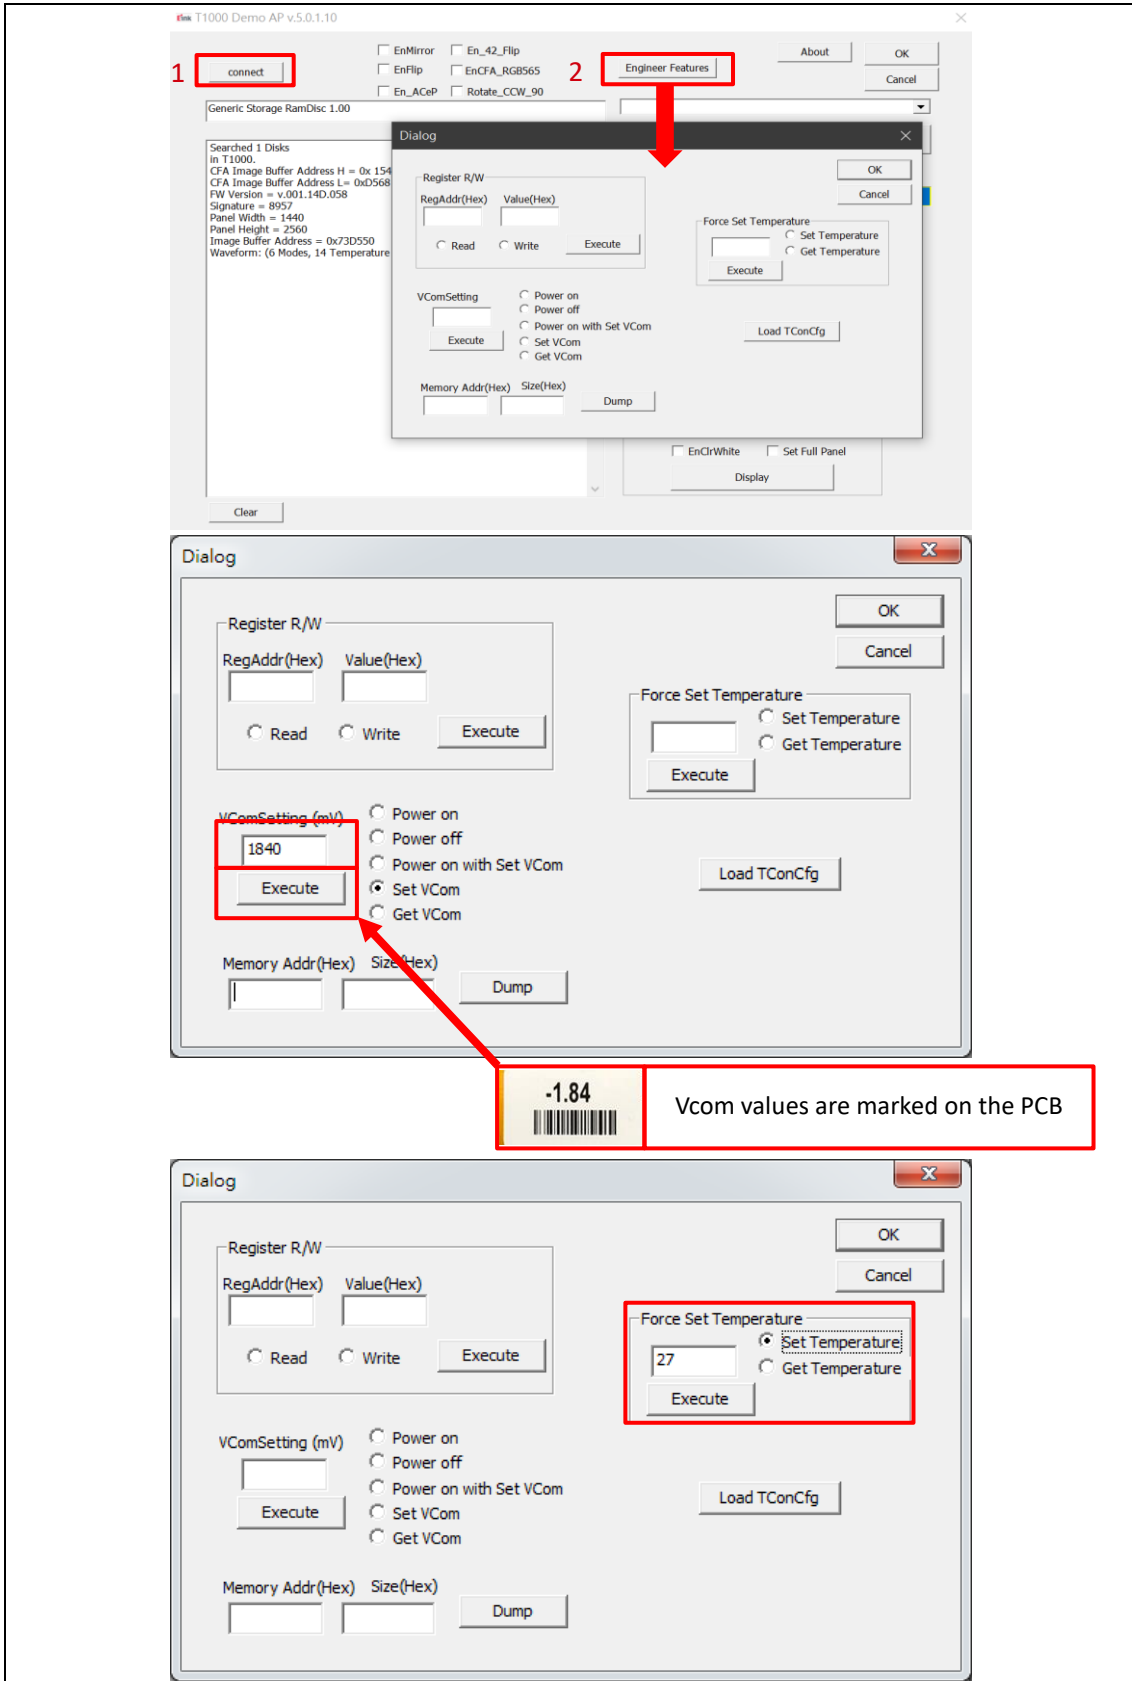

Figure 3.7
- Execute T1000 Demo AP (refer to Figure 3.7)